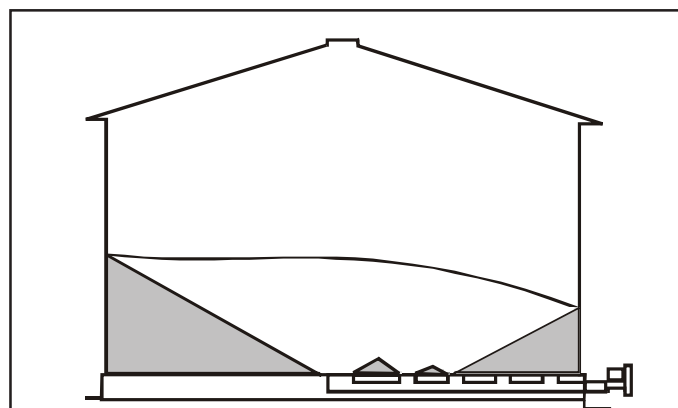

Figure 22
- B. If the bin is equipped with intermediate bin wells, open them after grain has stopped flowing into the center well and before the sweep auger is placed in the bin. Open the intermediate wells near the bin center first. Then when grain flow stops, open the wells near the bin wall. (See Fig. 22 and Fig. 23) The Commercial Bin Sweep Auger can then be installed. Always shut down the unloading equipment and lock out power before entering the bin.